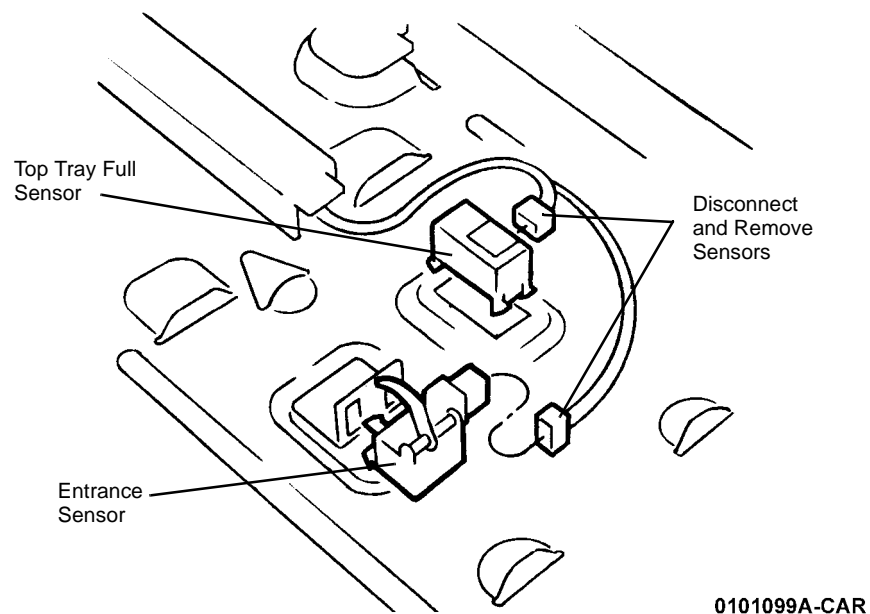

Figure 2 Removing Entrance Sensor and Top Tray Full Sensor
4. Remove the H Transport Entrance Sensor or Top Tray Full Sensor (Figure 2).